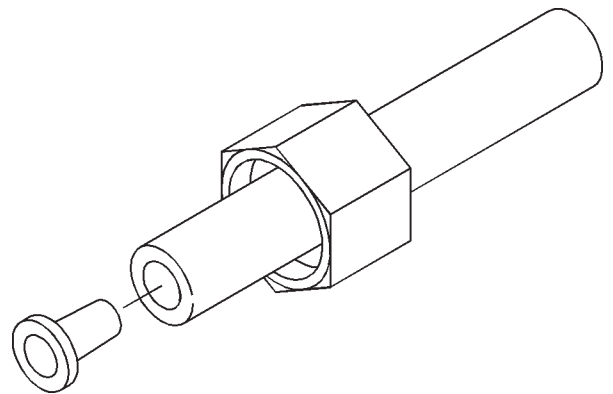

Figure 16. Brine valve tubing.
3. Slip the white nut over one end of the tubing and press the plastic insert into the end of the tubing (Figure 16). Connect to the brine valve and tighten nut.
5. Slip the white nut over one end of the tubing and press the plastic insert into the end of the tubing (Figure 16). Connect to the brine connection on the valve and tighten nut.